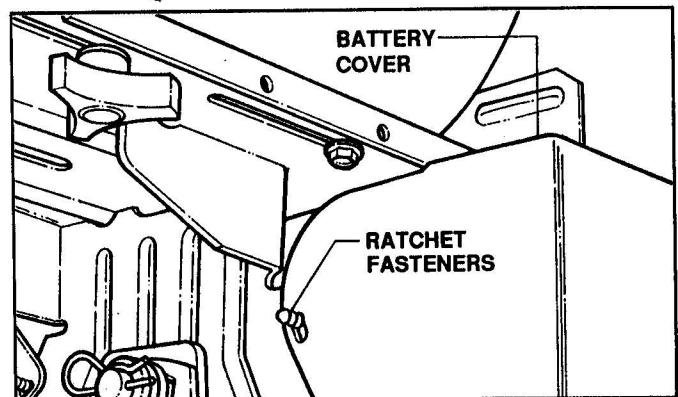

FIGURE 4.25
1. Carefully pull each side of battery cover away from ratchet fasteners and remove cover. See Figure 4.25.
4. Reinstall battery cover. Refer to Figure 4.25.